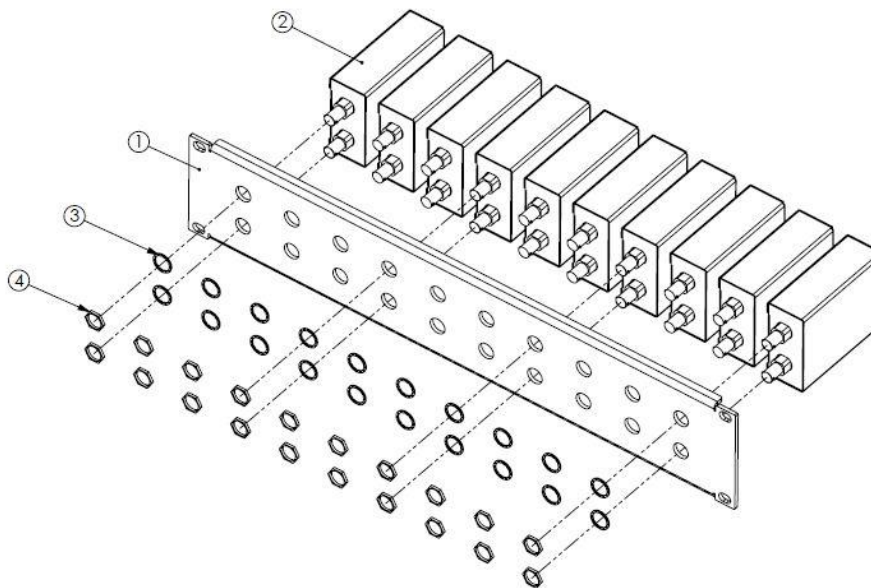

Figure 6: Inserting Units into Rack Mount Panel
2. Attach each unit to the rear side of the rack mount panel by inserting it through the holes as shown in Figure 6.